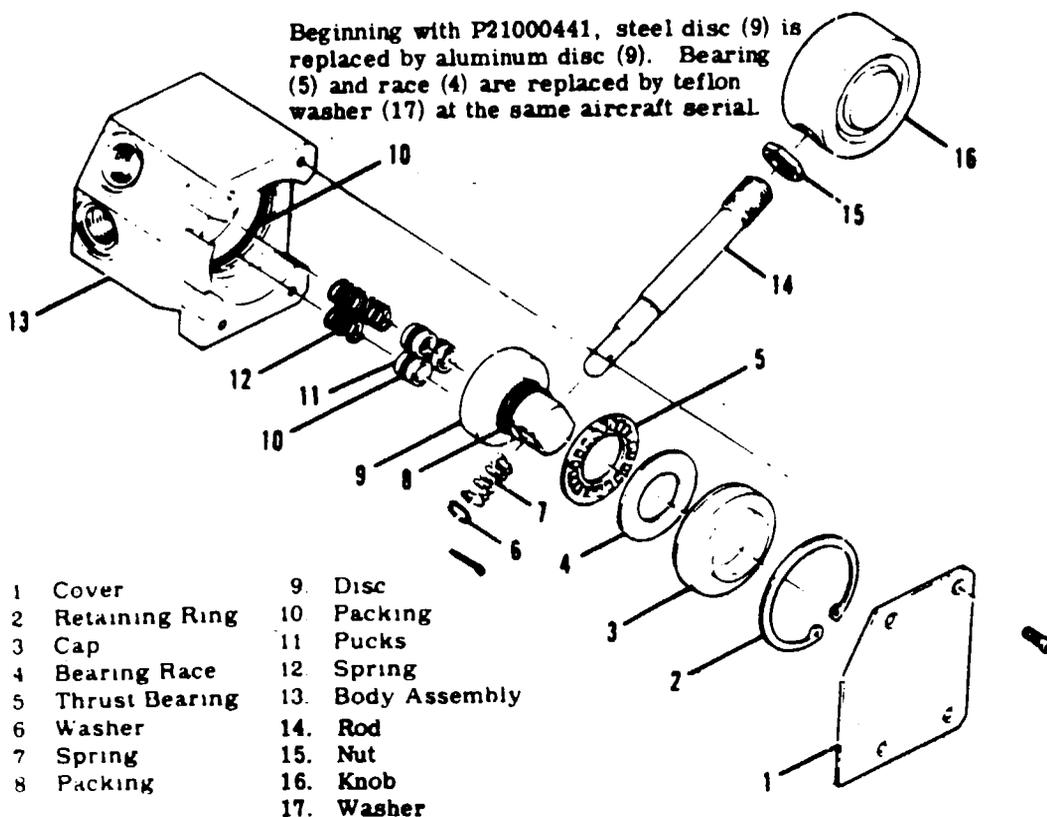

Figure 5A-7. Landing Gear Position Selector Valve
to figure 5A-7.)
- a. Remove cover (1), retaining ring (2) and cap (3). Thru P21000440, remove race (4) and bearing (5). Beginning with P21000441, remove washer (17).
- b. Remove cotter pin, washer (6) and spring (7).
- c. Pull rod (14) from disc (9); remove disc.
- d. Remove packs (11) and springs (12).
5A-35. INSPECTION AND REPAIR. (Refer to figure 5A-7.) Replace packings (8) and (10). Check valve for wear, foreign or abrasive materials. Disc (9) may be refaced (lapped) if worn or abraded. Check rollers in bearings (5).